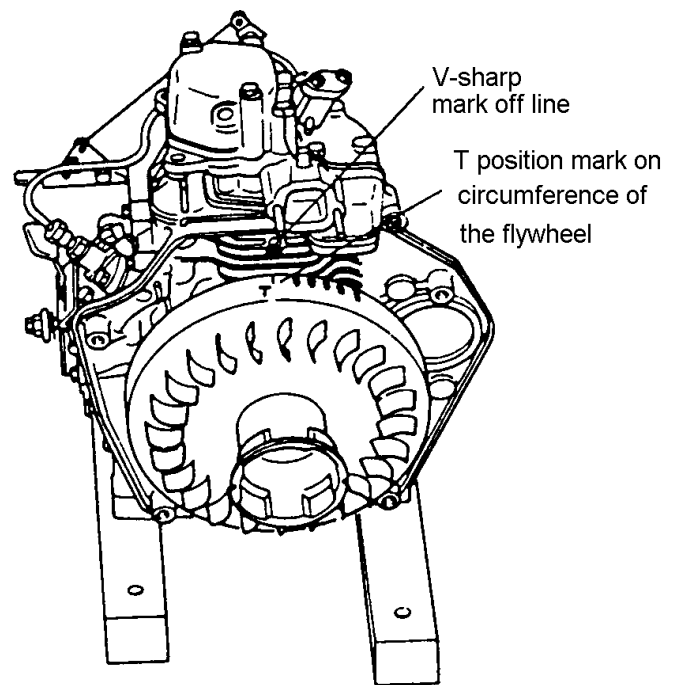

Figure 4-13. Fuel Injection Timing
3. Rotate flywheel one revolution in the clockwise direction until T position mark on flywheel matches V mark off line on cylinder body fin (see Figure 4-13). This is the top dead center (TDC) position. There should be some fuel coming out of the fuel injection pump. If fuel is not present, rotate the flywheel another revolution clockwise.